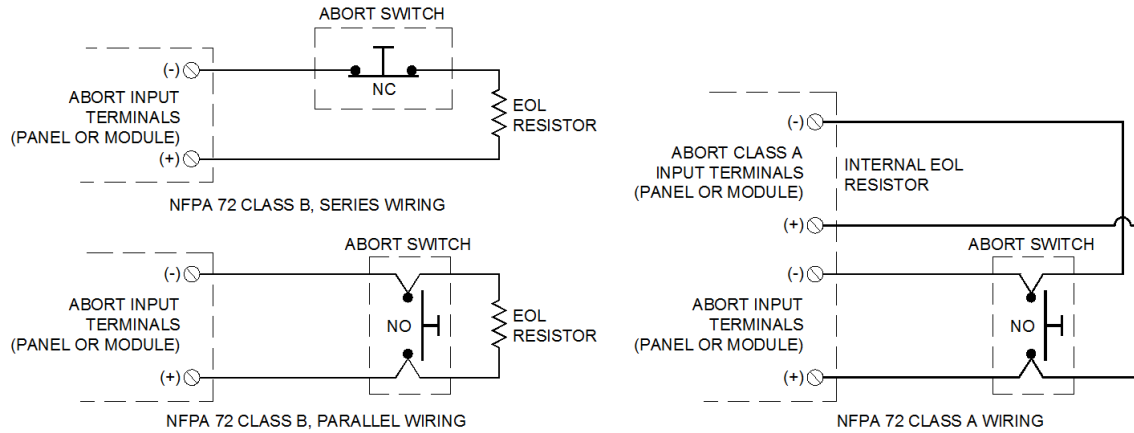

Figure 7 Typical Abort Switch Wiring
3. Connect field wiring to contact blocks. See Figures 7, 8 and 9 for wiring diagrams.